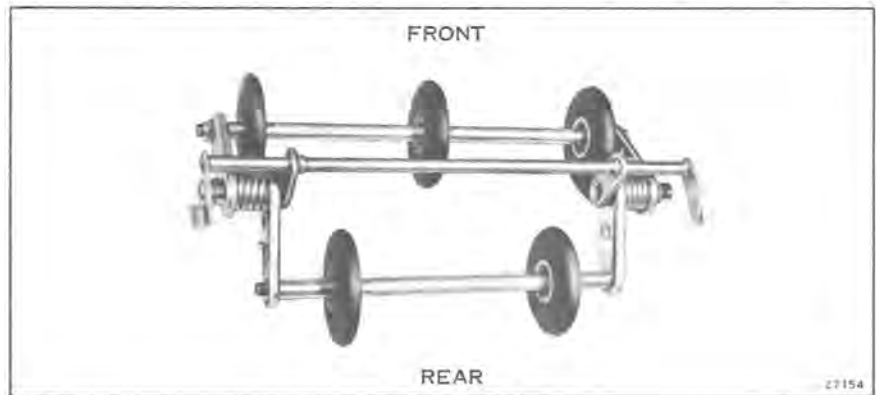

Figure 11-11
- e. Torque rear axle pivot nuts to 12-15 ft. lbs. Axle must rotate freely when assembled to chassis. Pivot arms must rotate on bushings with no binding or other restriction. See figure 11-11.